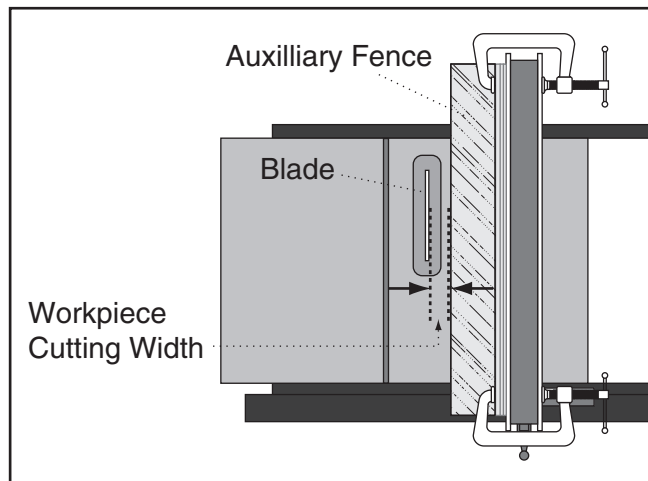

Figure 86. Adjusting ripping distance between blade and auxiliary fence.
1. Place the auxiliary fence on the table and clamp it to the fence at both ends, then adjust the distance between the auxiliary fence and the blade—this determines how wide the workpiece will be ripped (see **Figure 86**).